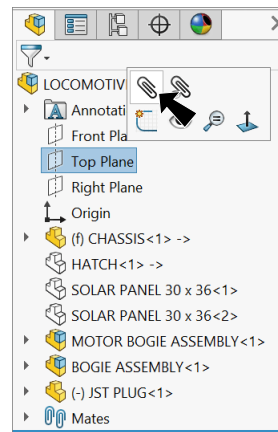

Fig. 25
Step 1. Click **Top Plane**  in the Feature Manager and **Mate**  on the context toolbar, **Fig. 25**.